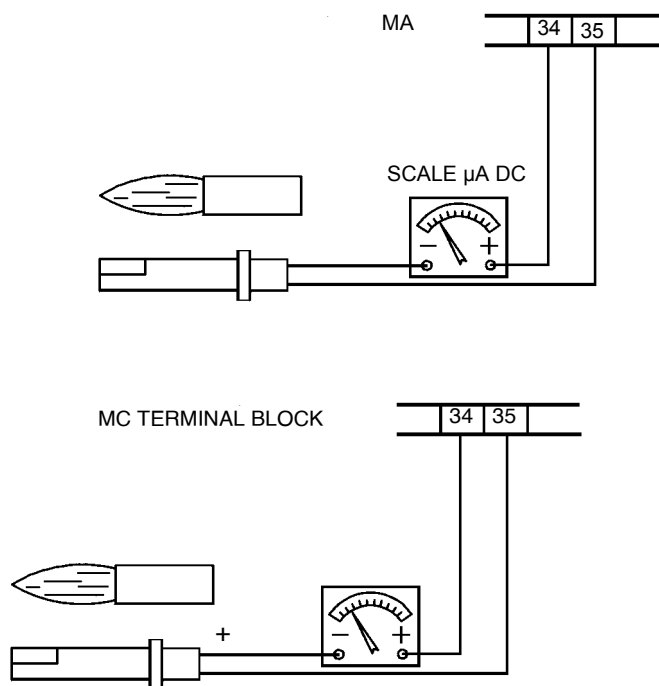

Fig. 27
- Unscrew the oil connections E (Fig. 26) connecting the flexible pipes to the gun L and remove the whole assembly as shown in Fig. 26-Fig. 27.